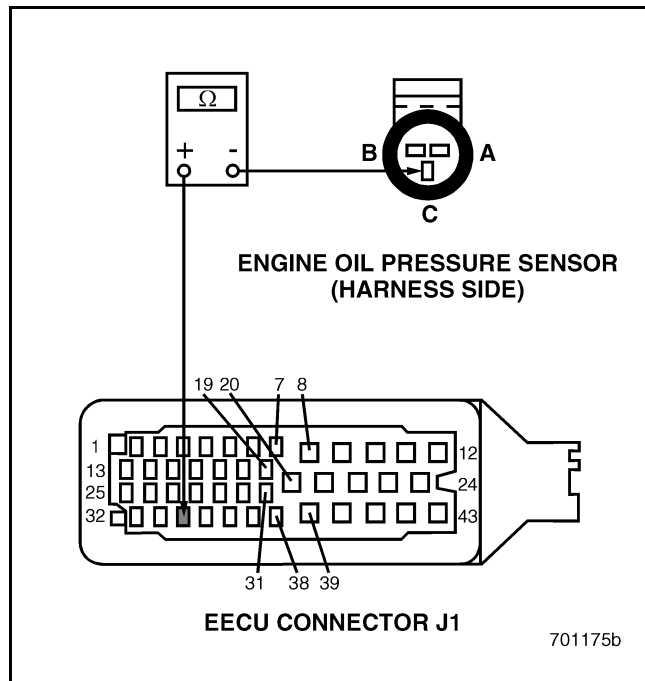

Figure 16
4. Check for continuity between EOP sensor harness connector pin C (signal line) and EECU harness connector J1 pin 34 (see Figure 16).